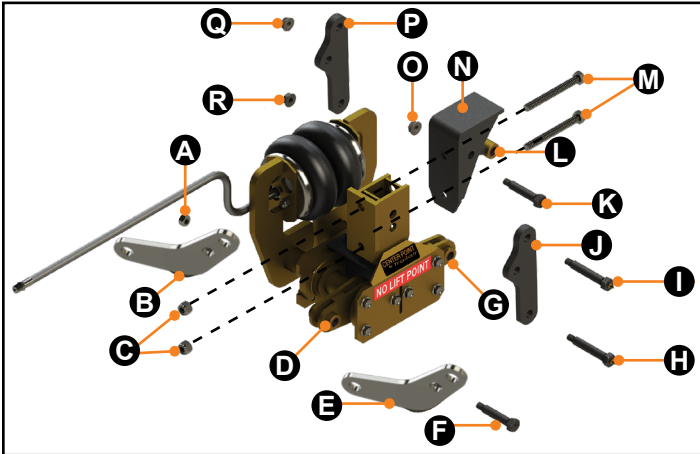

Fig.5
2. Working on the roadside front equalizer (Fig.5) starting on the left side of the assembly, dry fit one of the provided shackles (Fig.5E) onto the front of the equalizer's cross-shaft shackle links (Fig.5D). When working on the curbside front equalizer, start on the right side of the assembly to dry fit a shackle.